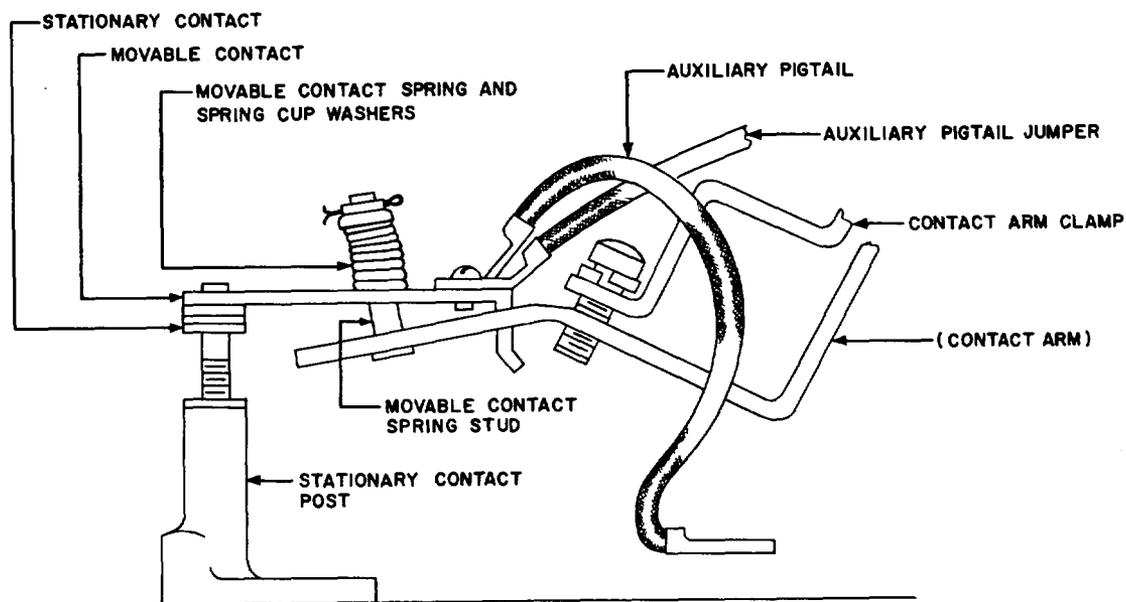

Fig. 4—Auxiliary Contact Structure (Butt Type) of 30-, 75-, 100-, and 150-Ampere Contactors
3.06 Movable Butt-Type Contacts—Fig. 4 to 7
3.07 Stationary Butt-Type Contacts—Fig. 4 to 7